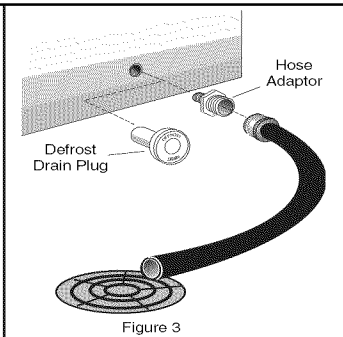

Figure 3
- Place a shallow pan or the Divider/Drain Pan (if equipped) beneath the drain outlet. Pull out the outside drain plug (see figure 2). A ½ inch garden hose adapter can be used to drain the freezer directly into a floor drain (see figure 3). If your model is not equipped with an adapter, one can be purchased at most hardware stores.